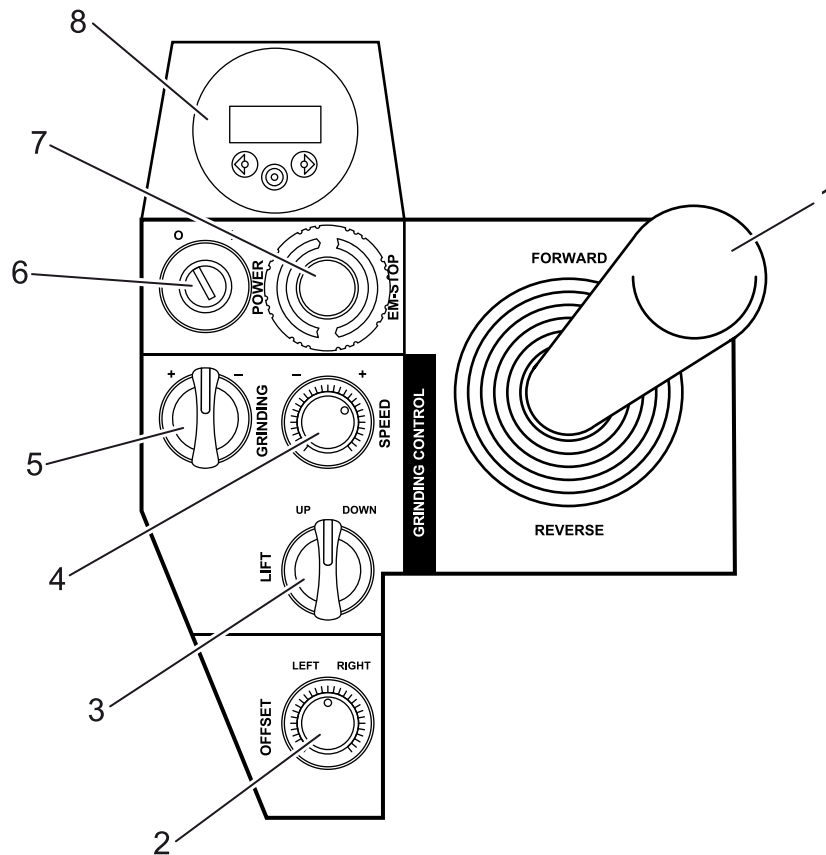

Figure 3-3 Control panel - left
- Turn the control to the left/right to adjust any veering tendencies, see Figure 3-3 on page 12.